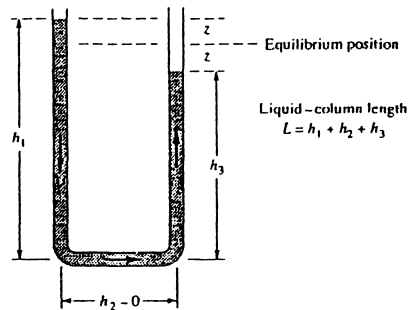

Fig. P3.96
**4.45** Suppose that we wish to analyze the U-tube oscillation flow of Fig. P3.96, using the full continuity and Navier-Stokes equations. What are the proper boundary conditions to handle this problem?